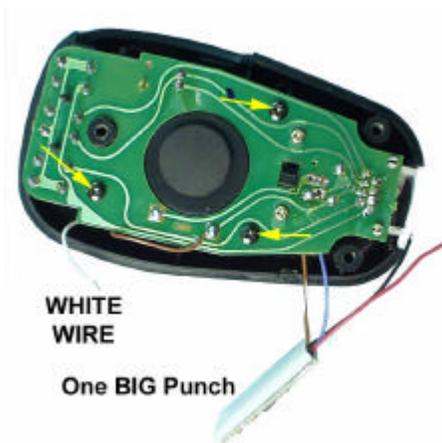

Figure 9.
- 9. Carefully replace the PCB as illustrated in Fig. 9. Replace the three screws (denoted by the yellow arrows) that you removed in Step 4. Tighten snugly, but do not overtighten.